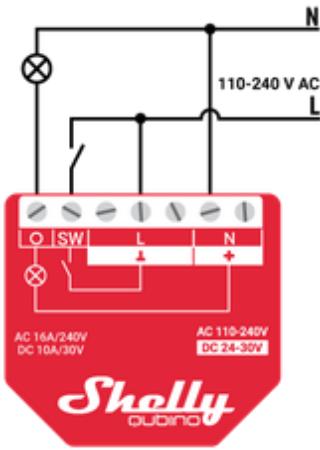
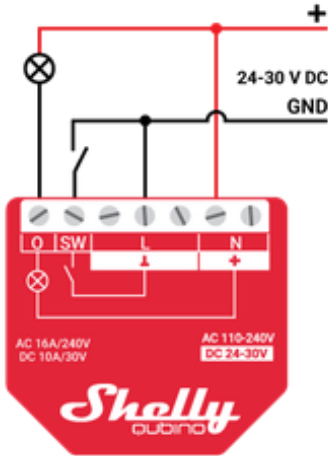

Fig. 1
Fig. 2
Connecting to the power grid with power supply 110-240 V AC (Fig. 1), or 24-30 V DC (Fig. 2).
**If you are using AC power supply** connect the load to the **O** terminal of the Device and the **Neutral** wire, as shown on **Fig. 1**. Connect the **Live** wire to an **L** terminal of the Device.
**If you are using DC power supply**, connect the wires as shown on **Fig 2**. Connect the load to the **O** terminal of the Device and the **DC+** wire. Connect the **GND** wire to a **⊥** terminal of the Device. Connect the **DC+** wire to a **+** terminal of the device. Connect the switch/push-button to the **SW** and any of the unused **⊥** terminals of the Device.